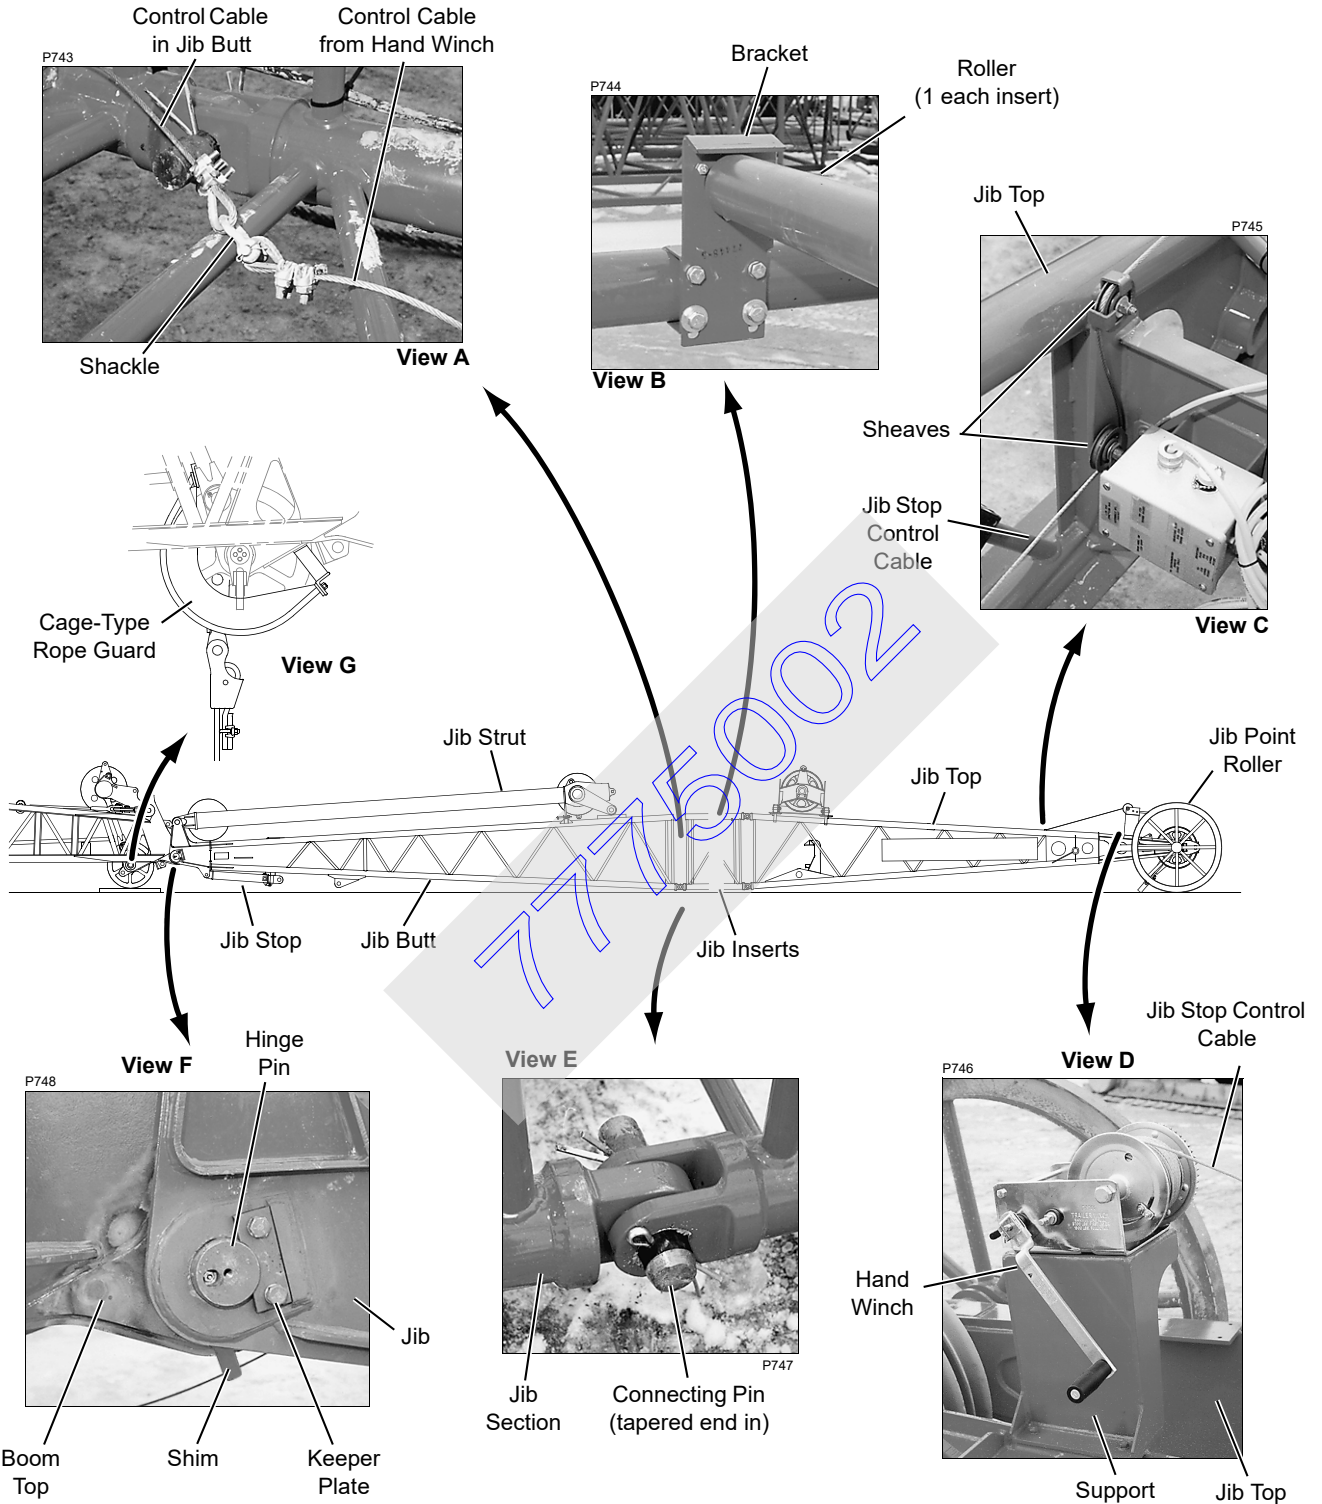

FIGURE 4-5
See Figure 4-5 for following procedure, unless otherwise noted.
4. If crane will be used to self-assemble luffing jib, disconnect boom from boom butt (777) or 17-1/2 ft (5.3 m) insert (777T) and install assembly block. See Figure 4-5 and procedure in Crane Assembly and Disassembly Guide in Crane Operator Manual.
See Figure 4-5 for following procedure.